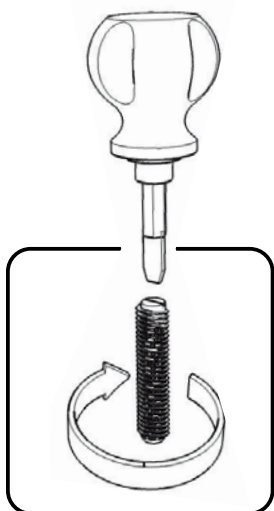

Figure 1
Attach two adjacent Legs (B) to Top (A) with Flat Washers, Spring Washers and Nuts, tightening Nuts only halfway. (See Figure 1)